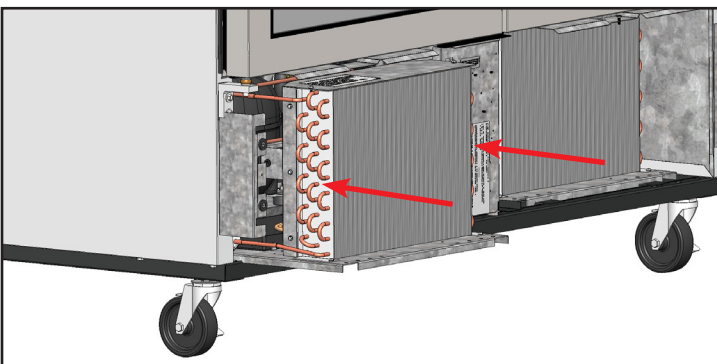

Fig. 8. Carefully slide the condensing unit back into position and replace the bolts.
9. Replace the coil brackets. Then carefully slide the compressor assembly back into position and replace the bolts. See fig. 8.